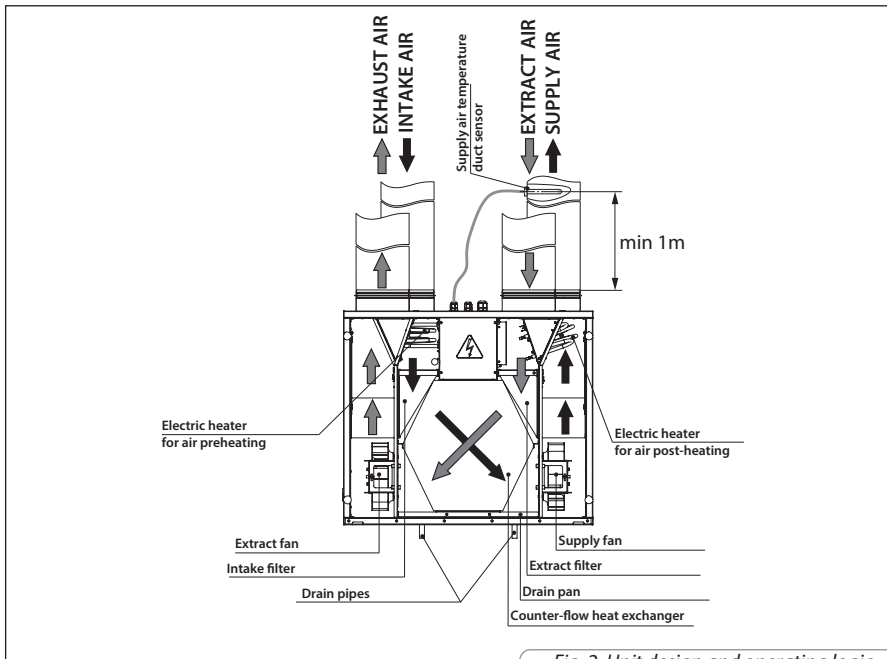

Fig. 2. Unit design and operating logic
The unit design and operation principle are shown in the Fig. 2.
To ensure proper operation of the supply air pre-heating function install a supply air temperature duct sensor (item 11 on Fig. 2) at the minimum distance of 1 m from the pipe marked «To Indoors».